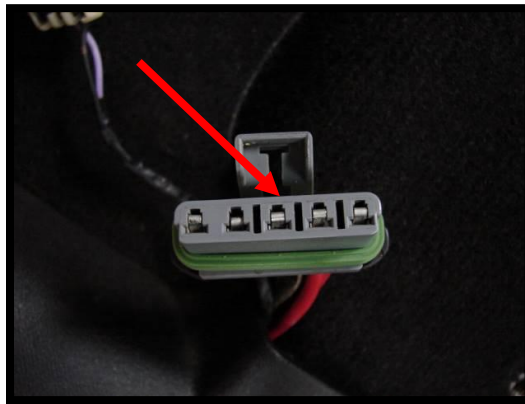

Figure 16
- 4-A) Locate the 5-pin plug on the ARB main power wiring harness (NOT the 5-pin plug on the compressor). Remove the plastic retainer from the back of the plug. This will allow the wires to be removed from the plug. Using a small flat blade screwdriver, or a paperclip, insert it into the smaller side of each metal connector (**Figure 16**) and pull out the wire from the back of the plug at the same time (there is a metal tab that locks each connector in place and the screwdriver will temporarily unlock the connector so it can be removed). Make sure you note the order! Removing the wires from the plug allows the wires to be passed through the firewall later.